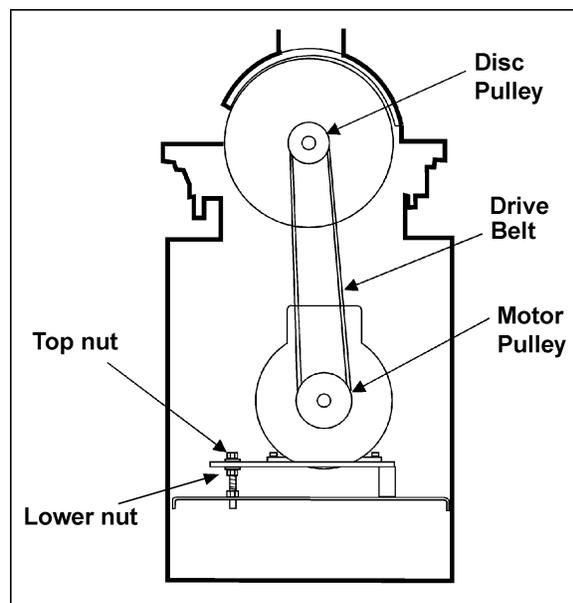

Figure 6
Refer to Figure 6:
5. The *drive belt* is already mounted on the *disc pulley* behind the disc, as shown in Figure 6. However, it should be checked to ensure that it is in the pulley groove.